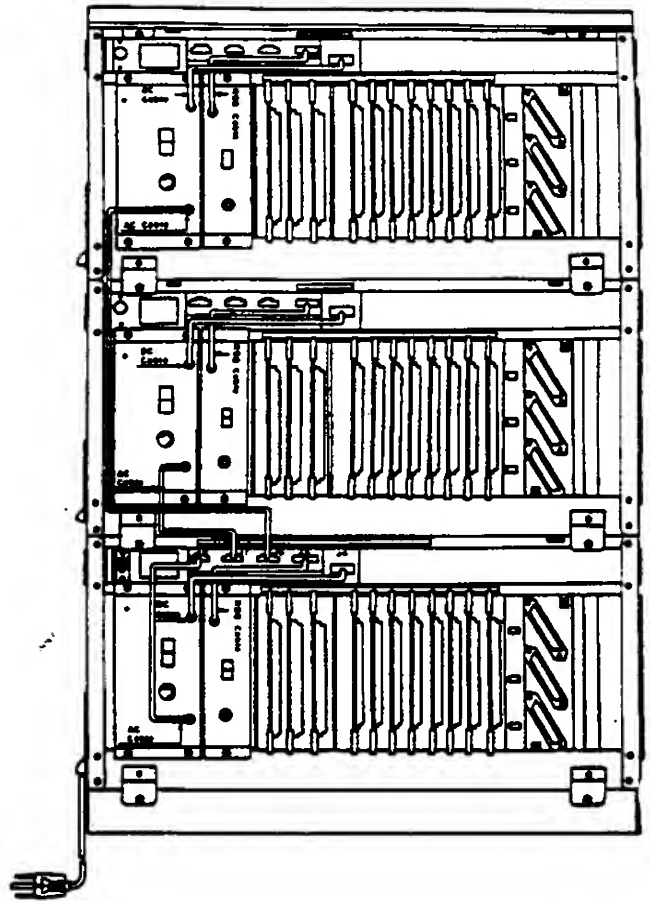

Figure 250-1 Connection of PSU Cable
B. Install a PSE-AD-1 PSU into the PSU slot in each CCU, as shown in Figure 250-1, making sure that its power switch is in the OFF position.